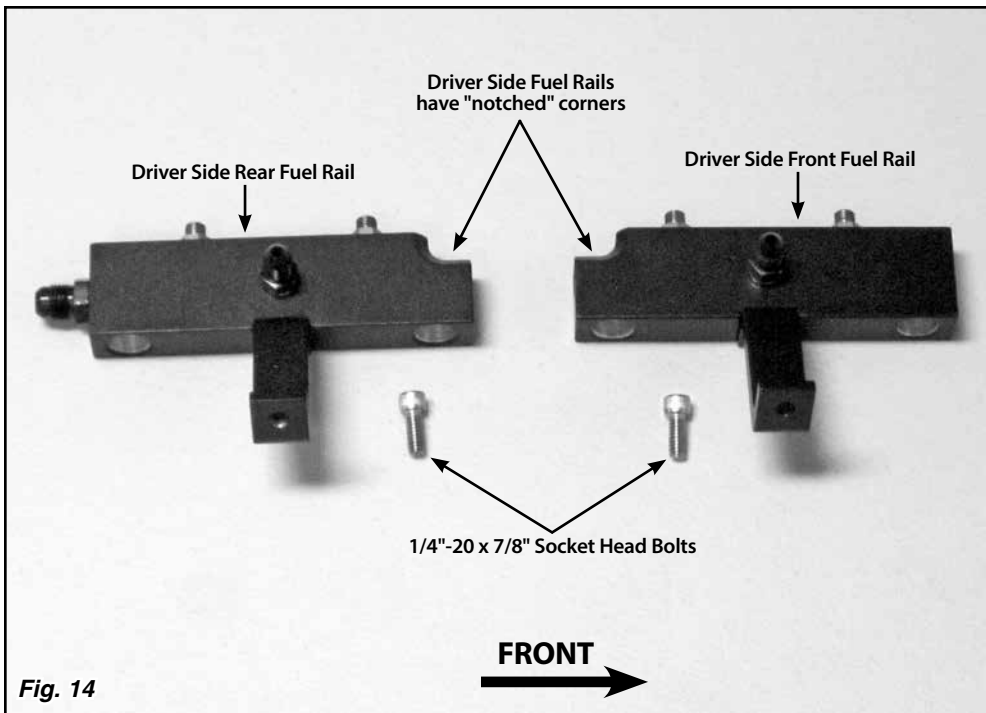

Fig. 14
**Step 14:** Determine the correct position of the four fuel rails on the lower manifold. Note the driver side rear and passenger side rear fuel rails (with the -6 AN fittings on the ends) will be installed with the -6 AN fittings pointing towards the rear of the engine. Two of the fuel rails are "notched" in one corner to provide clearance for the throttle body adapter and will be installed on the driver side of the manifold. **Fig. 14**